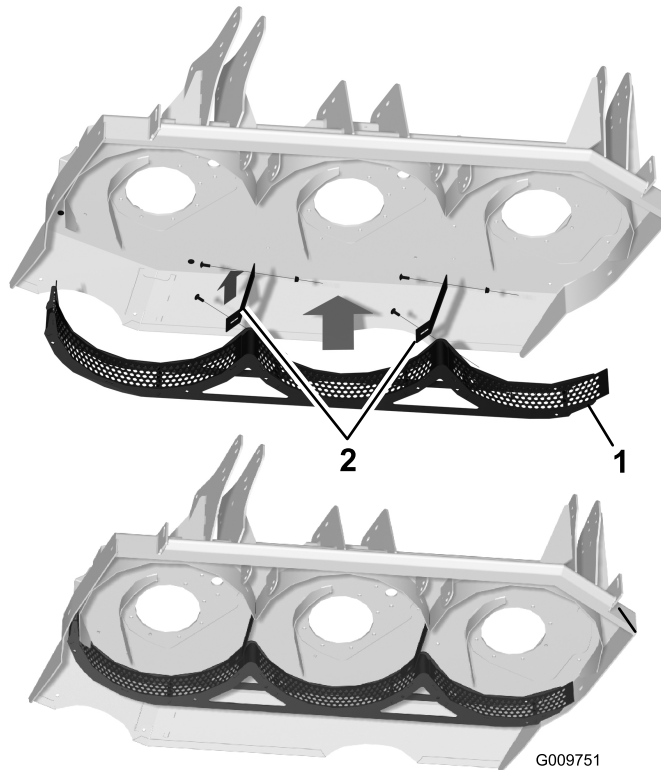

Figure 3
1. Install the wing deck baffle into the mower deck and align it with the mounting holes (Figure 3).
2. Loosely secure the baffle to the mower deck with 6 carriage bolts and nuts (Figure 3).
3. Loosely secure the 2 baffle divider plates to the baffle and the mower deck with 4 carriage bolts and flange nuts. Position the baffle divider plates as shown in Figure 3.